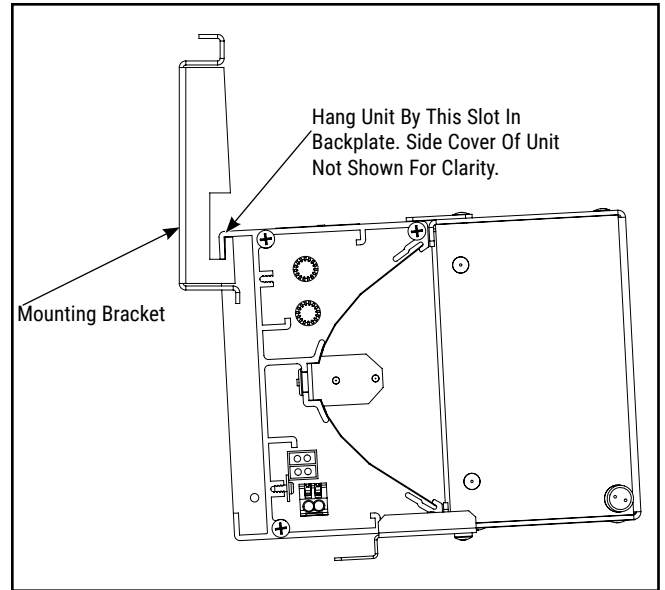

Figure 2.
2. Remove the mounting bracket from the back of the product. Fasten the mounting bracket to a 3-1/2" or 4" junction box. Temporarily hang the unit from the slots in the sides of the mounting bracket as shown. See figure 2. Pull AC wiring protruding from back of product up between the housing and backplate in preparation for making AC wiring connections.